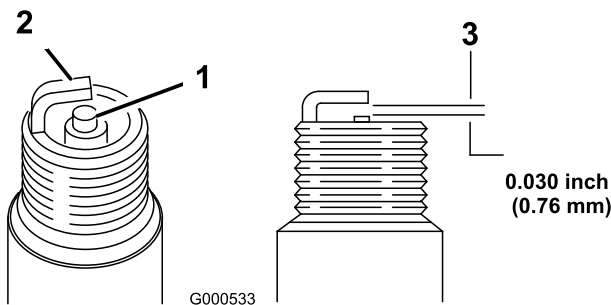

Figure 32
1. Look at the center of the spark plug(s) (Figure 32). If you see light brown or gray on the insulator, the engine is operating properly. A black coating on the insulator usually means the air cleaner is dirty.
2. Check the gap between the center and side electrodes (Figure 32). Bend the side electrode (Figure 32) if the gap is not correct.